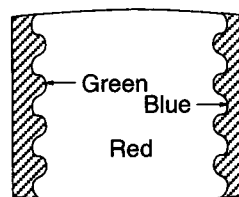

**Fig. 4-1**
3. Move the deflection yoke backward, and adjust with the purity control so that Red is at the center and the Blue and Green are evenly spaced at the sides. see (Fig. 4-1 – 4-3)
4. Move the deflection yoke forward, and adjust so that the entire screen becomes Red. (Fig. 4-1)